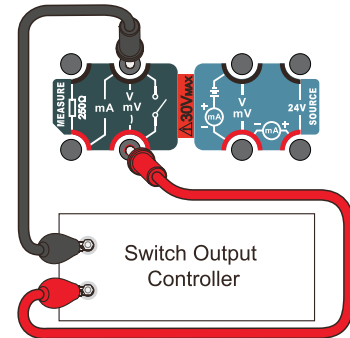

Figure 9.10 On-off measure
1. Refer to Figure 9.10 to connect test leads and begin to measure.